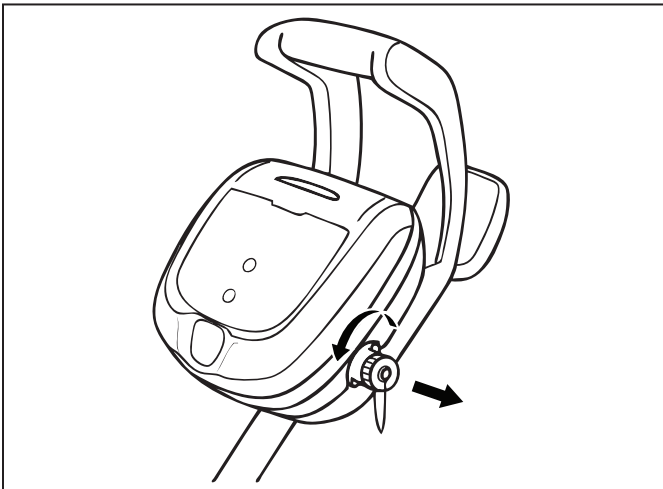

Figure 11. Remove Protective Cap
- **U.S.:** Per NEC® requirements, keep the control unit at least five (5) ft. (1.5 m) from the edge of the pool. **CANADA:** Per CEC™ requirements, keep the control unit at least three (3) m (10 ft.) from the edge of the pool.
1. Unscrew the protective cap for the power cable from the side of the control unit by turning counter-clockwise (Figure 11).